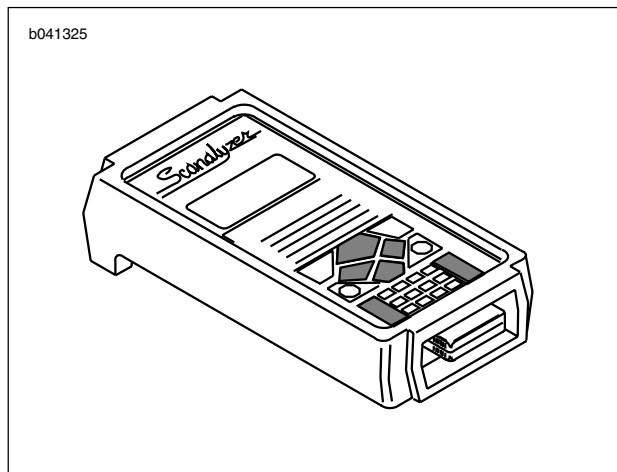

Figure 4-3. Scanalyzer (Part No. HD-41325)
2. Retrieve trouble codes using SCANALYZER (Part No. HD-41325) or check engine lamp diagnostics. See 4.5 SCANALYZER, 4.6 CHECK ENGINE LAMP DIAGNOSTICS and Figure 4-3.